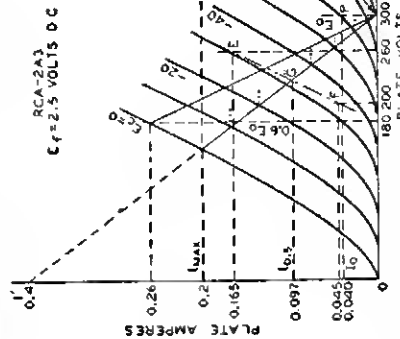
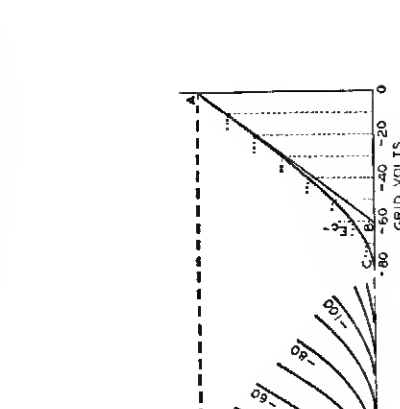

Fig. 24
Fig. 25
In class AB1 push-pull amplifier service using triodes, the operating conditions may be determined graphically by means of the plate family if  $E_{dc}$ , the desired operating plate voltage, is given. In this service, the dynamic load line does not pass through the operating point P as in the case of the single-tube amplifier, but through the point D in Fig. 24. Its position is not affected by the operating grid bias provided the
In general, for any load line through point D, Fig. 24, the plate-to-plate load
**Example:** Fig. 24 illustrates the application of this method to a pair of 2A3's operated at  $E_0 = 300$  volts. Each tube has a plate-dissipation rating of 15 watts. The method is to erect a vertical line at  $0.6E_0$ , or at 180 volts, which intersects the  $E_c = 0$  curve at the point  $I_{max} = 0.26$  ampere. Using the simplified formulas, we obtain
The operating bias and the zero-signal plate current may now be found by use of a curve which is derived from the plate family and the load line. Fig. 25 is a curve of instantaneous values of plate current and dc grid-bias voltages taken from Fig. 24. Values of grid bias are read from each of the grid-bias curves of Fig. 24 along the load line and are transferred to Fig. 25 to produce the curved line from A to C. A tangent to this curve, starting at A, is drawn to intersect the grid-voltage abscissa. The point of intersection, B, is the operating grid bias for fixed-bias operation. In the example, the bias is -60 volts. Refer back to the plate family at the operating conditions of plate volts = 300 and grid bias = -60 volts; the zero-signal plate current per tube is seen to be 0.04 ampere.
As in the case of the push-pull class A amplifier, the second-harmonic distortion in a class AB1 amplifier using triodes is very small and is largely canceled by virtue of the push-pull connection. Third-harmonic distortion, however, which may be larger than permissible, can be found by means of composite characteristic curves. A complete family of curves can be plotted, but for the present purpose only the one corresponding to a grid bias of one-half the peak grid-voltage swing is needed. In the example, the peak grid voltage per tube is 60 volts, and the half value is 30 volts. The composite curve, since it is nearly a straight line, can be constructed with only two points (see Fig. 24). These two points are obtained from deviations above and below the operating grid and plate voltages.
long-short dash line in Fig. 24. At the intersection of the composite curve and the load line, G, the instantaneous composite plate current at the point of one-half the peak signal swing is determined. This current value, designated  $I_{0.5}$ , and the peak plate current,  $I_{max}$ , are used in the following formula to find peak value of the third-harmonic component of the plate current.